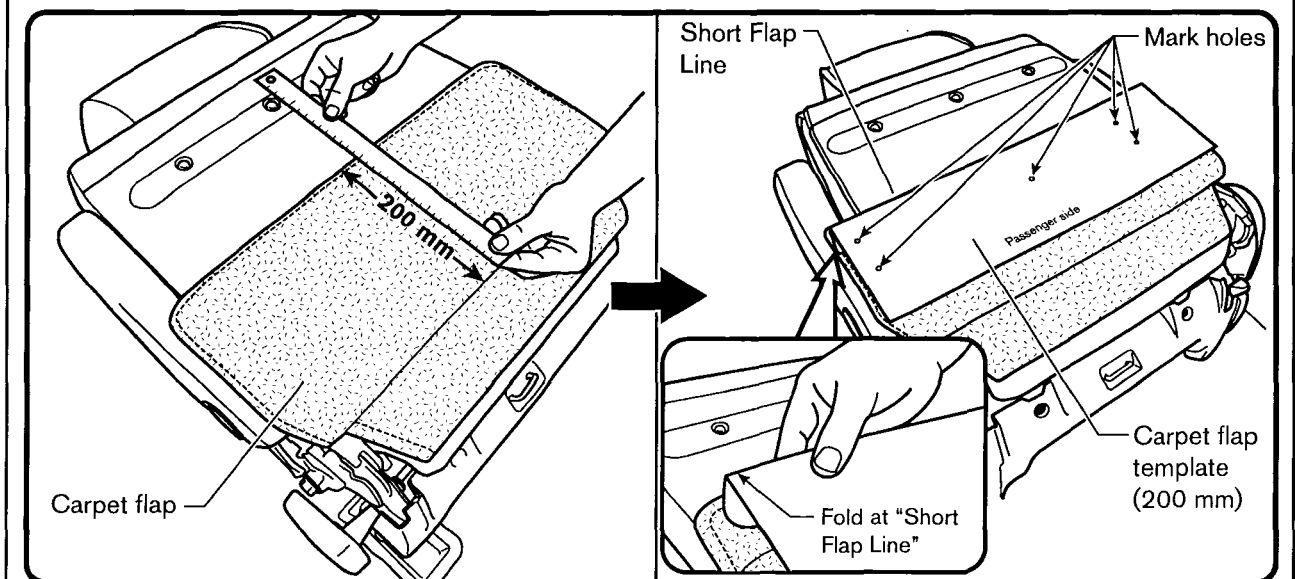

Figure 11b
- If the carpet flap is **200mm (7 ⁷/₈")**, fold the carpet flap template as shown and place the "Short Flap Line" along the carpet flap edge. Then mark the holes as shown in Figure 11b.